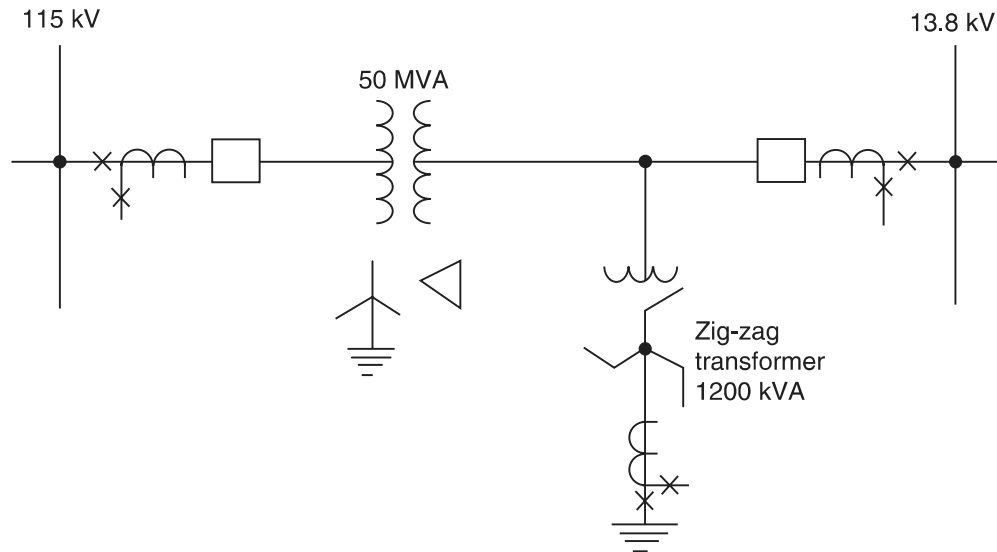

FIGURE P9.4
- 9.4** A 50 MVA transformer bank (Figure P9.4), wye-grounded to a 115 kV bus, and delta to a 13.8 kV bus, supplies power to the 13.8 kV system. Transformer breakers are available on both sides of the bank with 300:5 (115 kV side) and 2200:5 (13.8 kV side) current transformers. To ground the 13.8 kV system, a 1200 kVA zig-zag transformer has been connected between the power transformer and the 13.8 kV bus and within the differential zone. For this arrangement as shown: